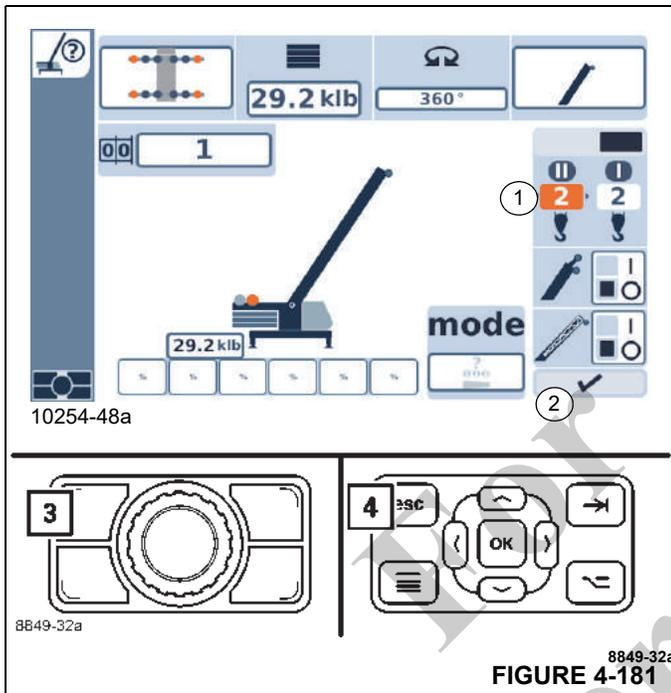

FIGURE 4-181
- Press the button (3, Figure 4-181) or (4) once – the config menu is opened.